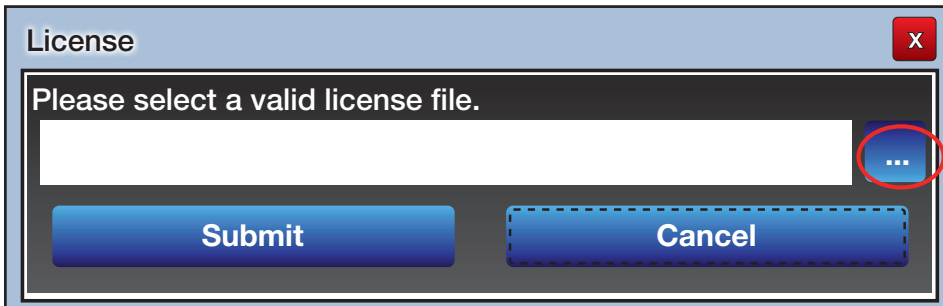
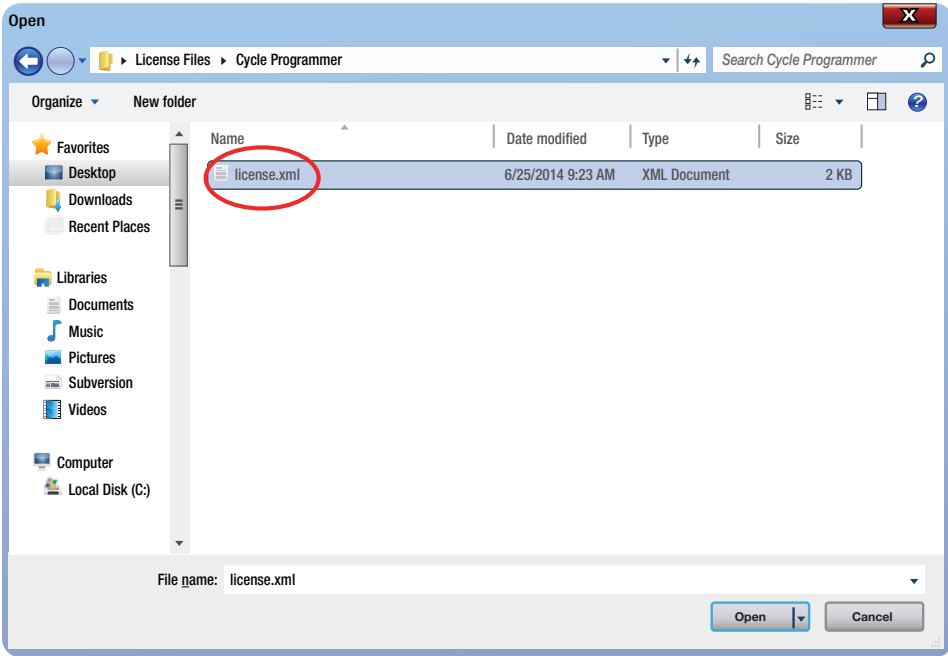
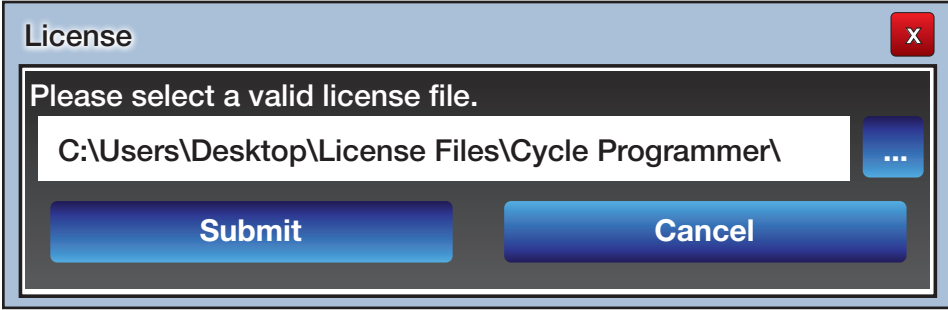

Figure 34.
Figure 35. Locating the Saved License.xml File
Figure 36. File Loaded and Ready to Submit
10. Install the company-specific license file obtained from 3M. Click on the **Browse** button (Figure 34) and locate the license file (Figure 35). Highlight the license file; click **Open** (Figure 35), then **Submit** (Figure 36). Once loaded, the 3M Cycle Programmer is ready for use. Install the 3M Cycle Programmer on an unlimited number of computers within the same company location using the same license file; however, the license agreement prohibits distribution of the 3M Cycle Programmer outside the registered company site.